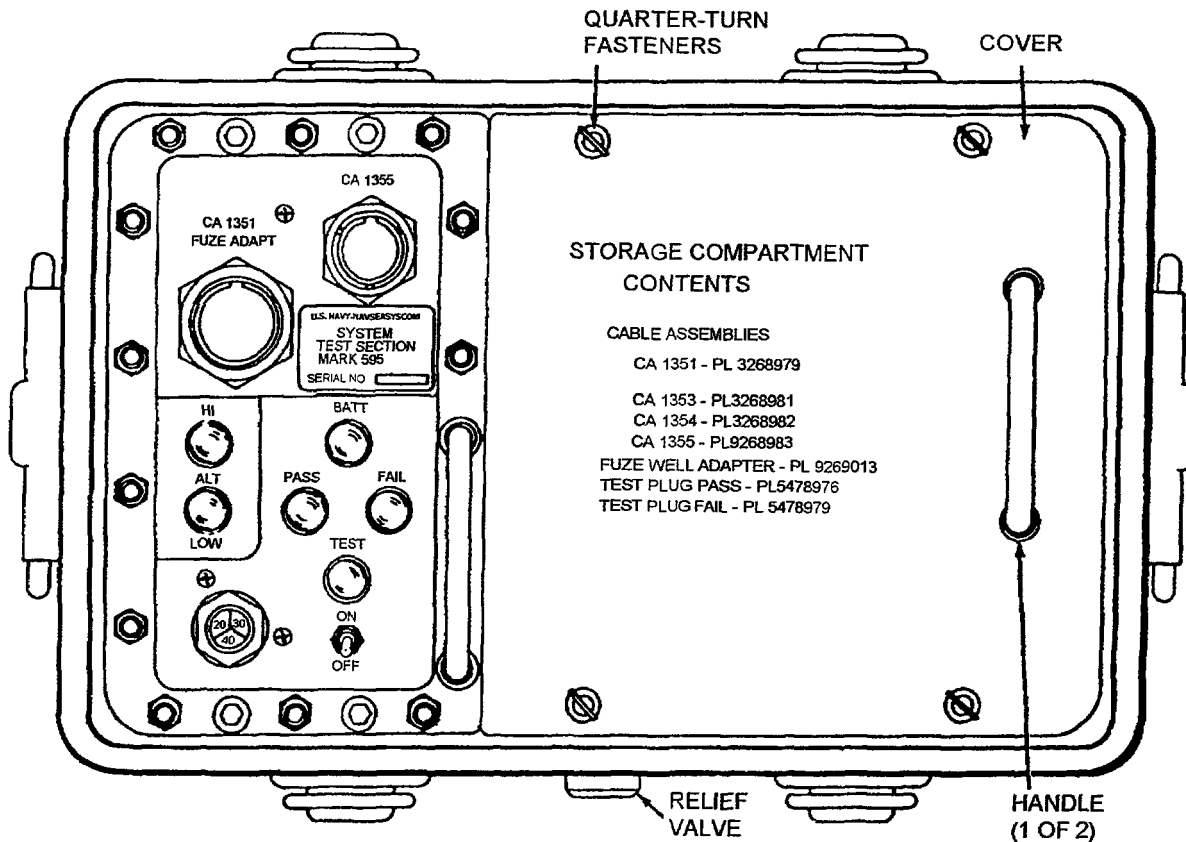
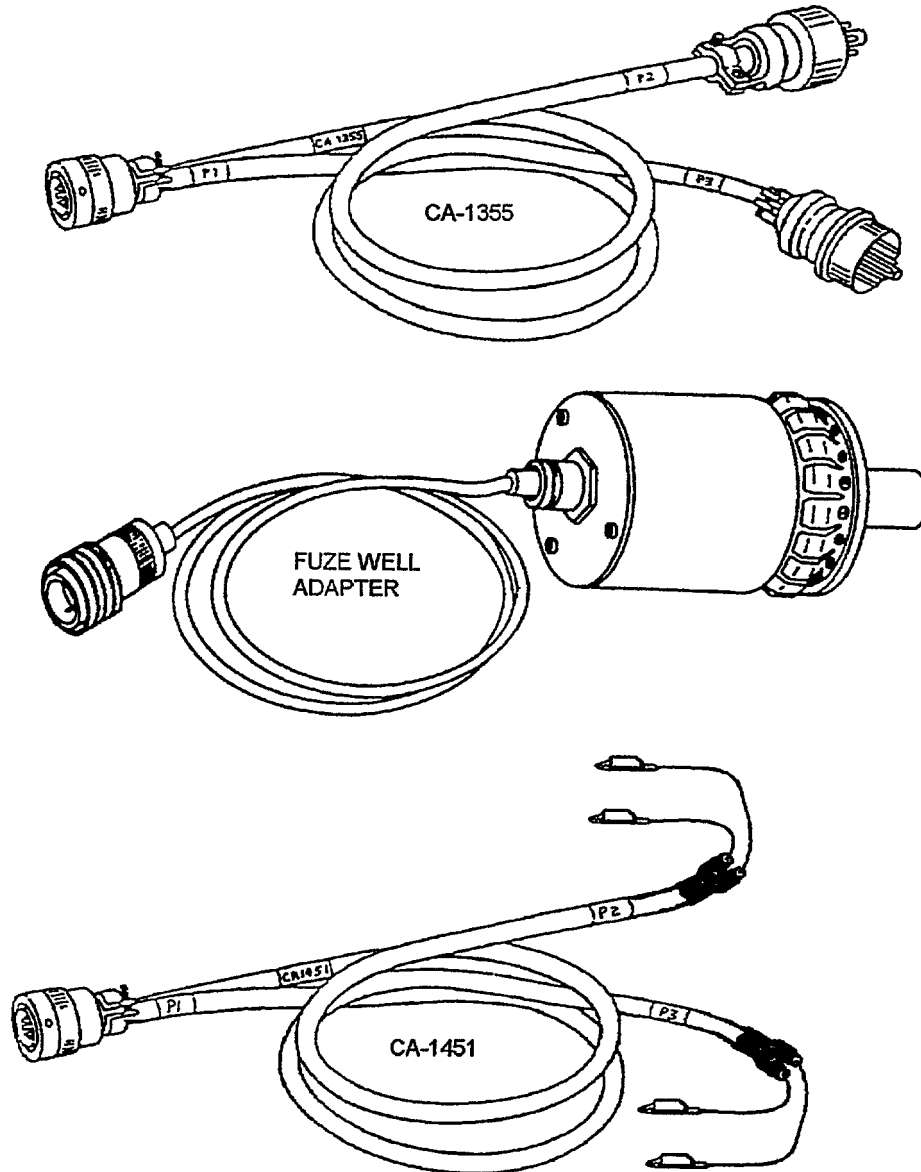

Figure 4-14C. Test Set, Mine Mk 595 Mod 1, System Test Section
Figure 4-14D. Cable Assemblies CA-1355, CA-1451, and Fuze Well Adapter
- b. Unlatch the four latches on the test set case. Separate the top section (preset programming section) from the bottom section (system test section, Figure 4-14C).
- e. Open test storage compartment (Figure 4-14C), remove Cable Assembly CA-1355 and the fuze well adapter (Figure 4-14D).
- f. Verify that ON/OFF switch on system test section is in OFF position (Figure 4-14C).